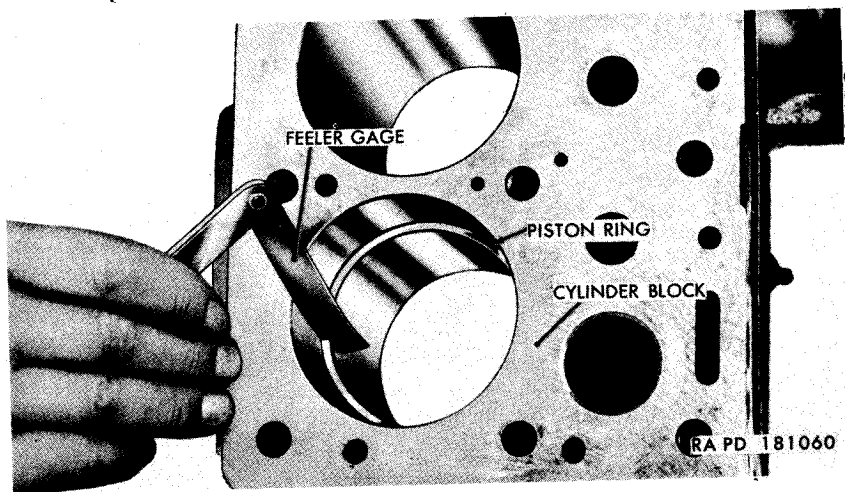

Figure 49. Checking piston ring gap.
- (1) Insert one of the rings selected into one of the cylinder bores. Using the piston (held upside down) fitted to that cylinder as a plunger, force the ring down into the cylinder the full length of the piston. Check the gap between the ends of the ring with a feeler gage (fig. 49).
- (2) If the gap is less than 0.008 to 0.013 inch, remove the ring and file the ends of the ring with a fine cut file until the correct gap is obtained. If the gap is greater than that specified, remove the ring and use the next oversize ring set. Repeat this procedure on each of the three piston rings and upon completion of the operation install the set of rings on the piston as instructed in *f* below.